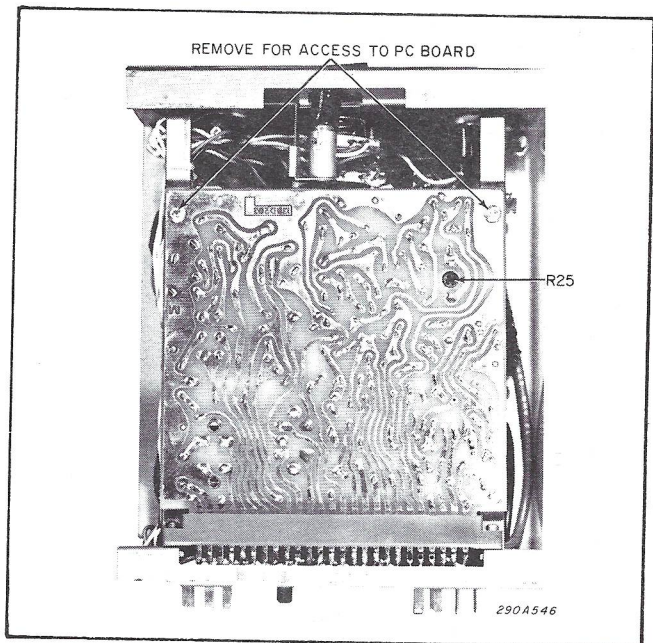

Figure 6-2. PC Board Removal.
The PC Board is secured to the chassis by two Phillips-head screws (figure 6-2). Removing these screws allows the board to be pulled out of its edge connector.
3. Set the SELECTOR switch to WAIL, YELP or HI-LO. Adjust R25 (see figure 6-2) for a perfect square wave on the oscilloscope.